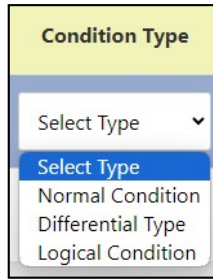

Figure 65: Drop-Down Menu for Condition Type Selection
3. **Condition Type:** This specifies the nature of the condition and determines how the system will interpret and process it. Selecting the "Condition Type" option opens a dropdown menu with various types to choose from, depending on requirements, as shown in Fig 65.